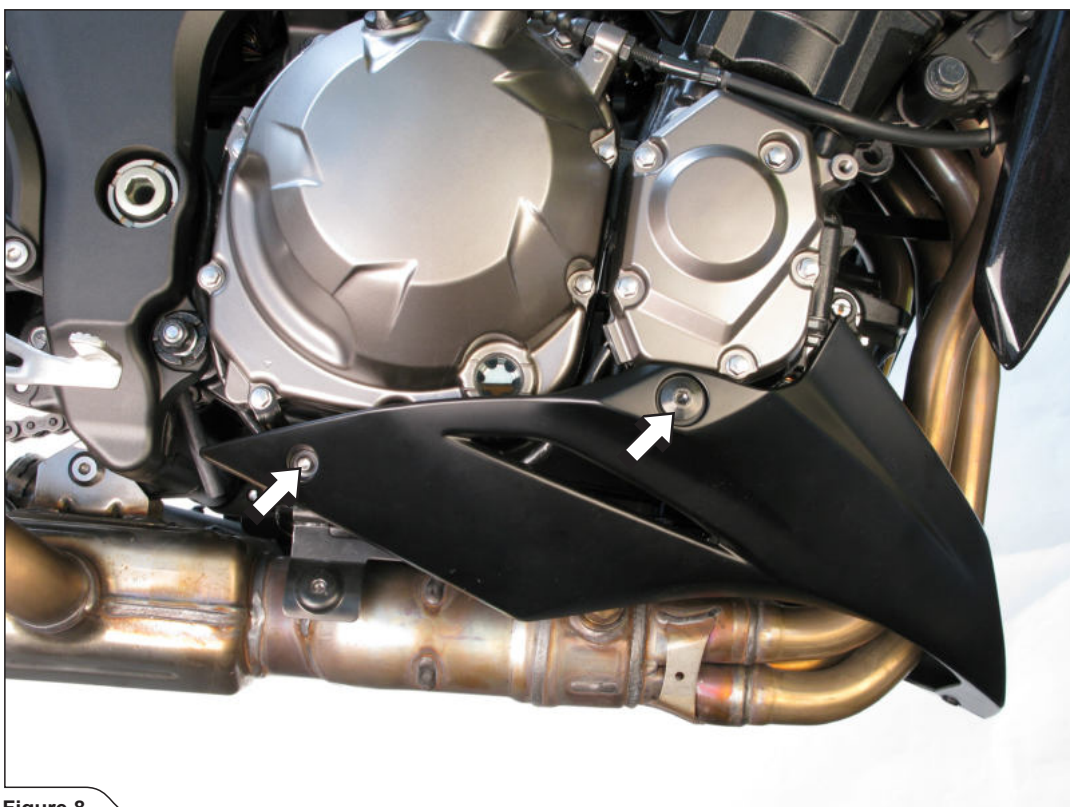

Figure 8
7. **For Z1000 model only:** unscrew the marked bolts on both sides of the motorcycle and carefully remove the lower cowling off the motorcycle (**Figure 8**).